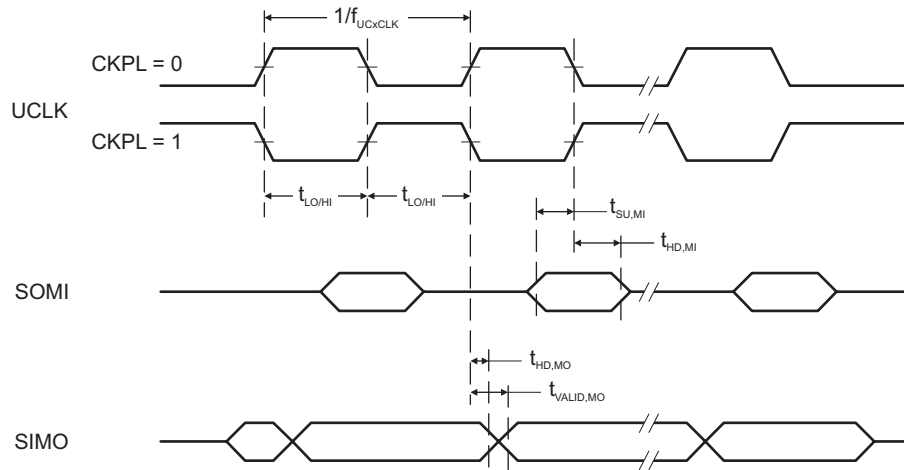
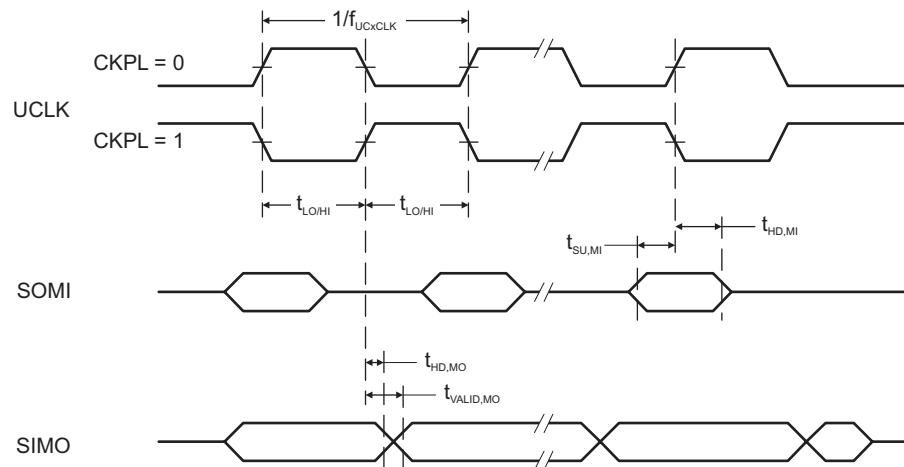

Figure 8-12. SPI Master Mode, CKPH = 0
Figure 8-13. SPI Master Mode, CKPH = 1
(see Figure 8-12 and Figure 8-13)
- Specifies the time to drive the next valid data to the SIMO output after the output changing UCLK clock edge. Refer to the timing diagrams in Figure 8-12 and Figure 8-13.
- Specifies how long data on the SIMO output is valid after the output changing UCLK clock edge. Negative values indicate that the data on the SIMO output can become invalid before the output changing clock edge observed on UCLK. Refer to the timing diagrams in Figure 8-12 and Figure 8-13.
- (2) Specifies the time to drive the next valid data to the SOMI output after the output changing UCLK clock edge. Refer to the timing diagrams in Figure 8-12 and Figure 8-13.
- (3) Specifies how long data on the SOMI output is valid after the output changing UCLK clock edge. Refer to the timing diagrams in Figure 8-12 and Figure 8-13.